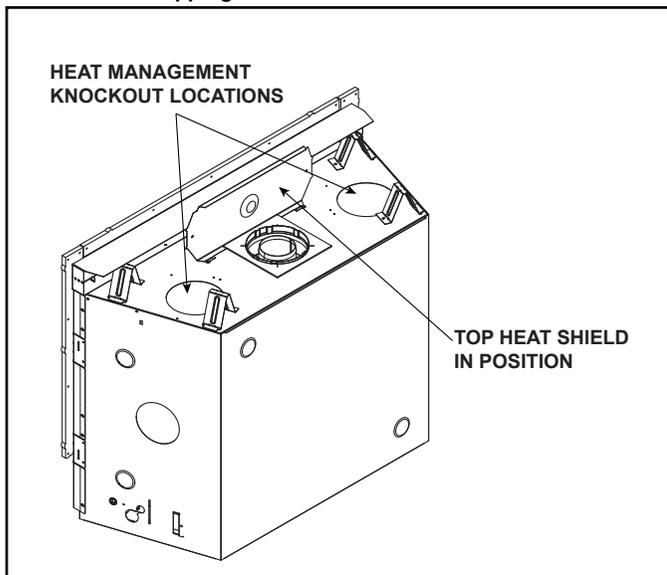

Figure 6.2 COSMO42-IFT-B / COSMO36-IFT-B
2. Fold up top heat shield to 90 degrees as shown in Figure 6.2.
- Locate the two heat management ports on the top of the appliance. Either one or two Heat-Zone® -Gas Kits may be installed. See Figure 6.2. Remove the knockouts from the appliance with a tin snips.